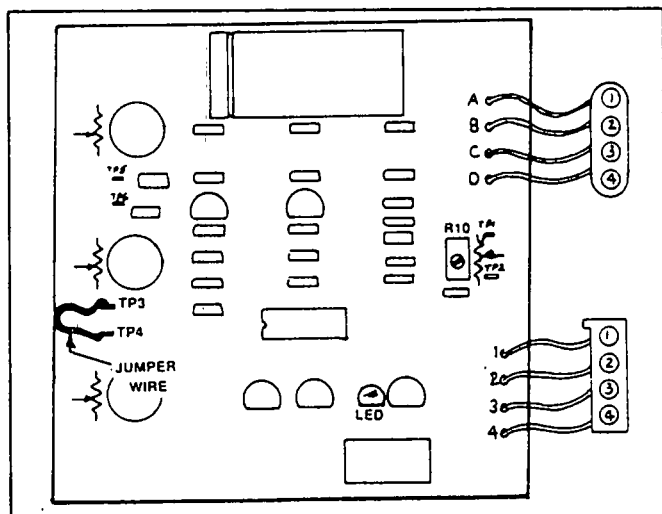

Figure 10. Utility Voltage Sensor Board Calibration
2. On the utility voltage sensor board, locate Test Points "TP3" and "TP4" (Figure 10). Connect a jumper wire across these two test points.